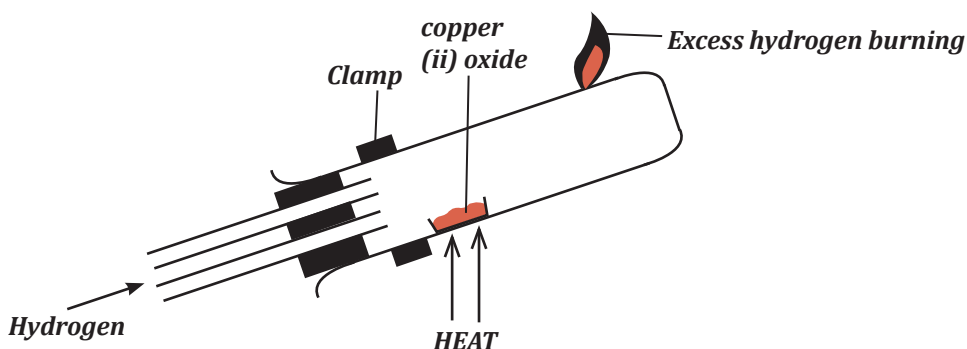

Fig9.4 Reduction of copper (ii) oxide with hydrogen
1. Set up the apparatus as in figure 9.4 in which the test tube has a hole in the end.